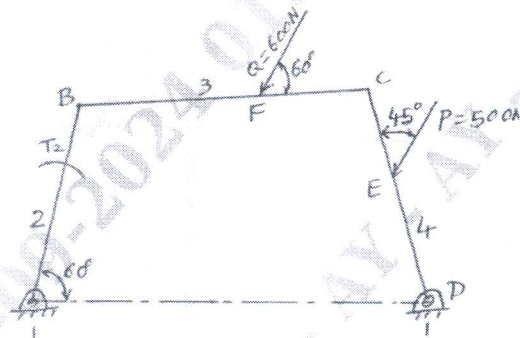

Fig.Q4
- 4 A four bar mechanism under the action of two external forces is shown in Fig.Q4. Determine the torque to be applied on the link AB for static equilibrium. The dimensions of links are $AB = 50$ mm, $BC = 66$ mm, $CD = 55$ mm, $CE = 25$ mm, $CF = 30$ mm, $BAD = 60^\circ$ and $AD = 100$ mm.